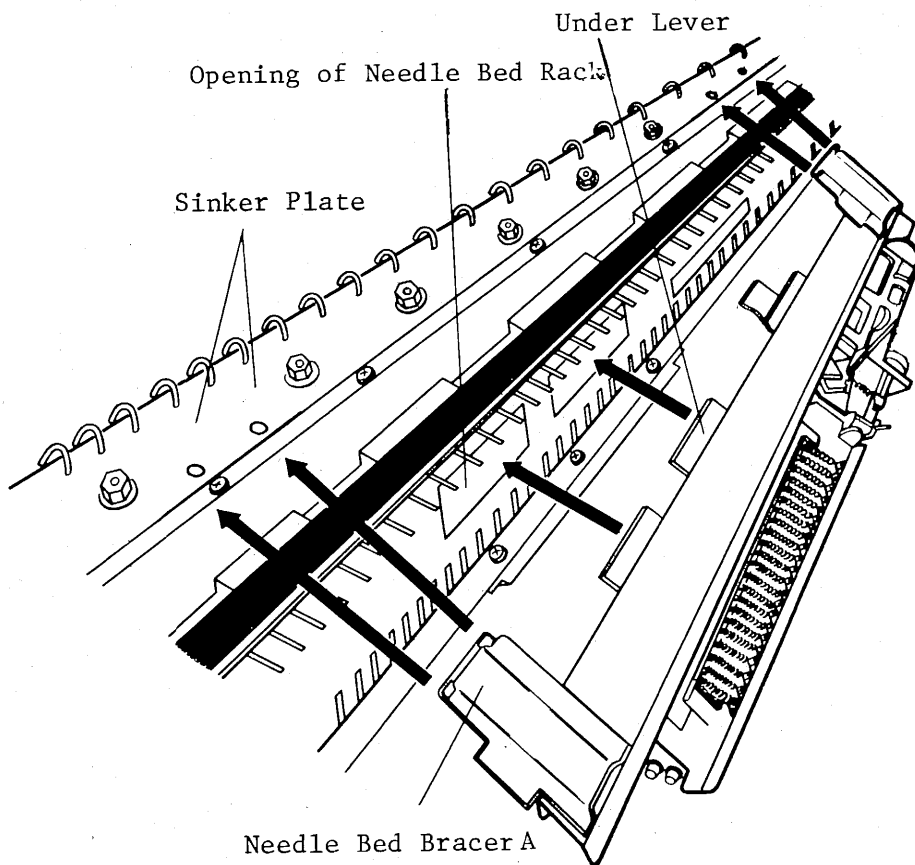

Fig. 84
- (1) As shown in Fig. 84, press in Pattern Assembly in the arrow marked direction while aligning Needle Bed Bracer A with the holes of Sinker Plate, and Under Lever with the openings of Needle Bed Rack.